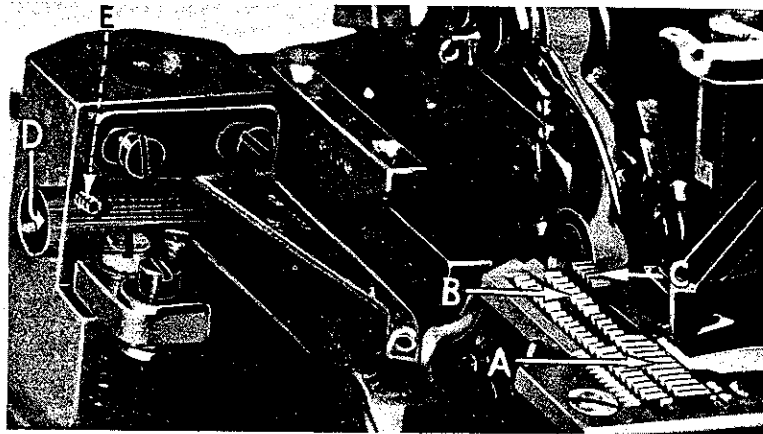

Fig. 12
On Style 39500 A set all three feed dogs (A, B, C, Fig. 12) so the top surfaces of teeth all lie in the same plane. This can be checked by sighting across teeth with a straight edge. Feed dogs should now be leveled with throat plate surface by rotating feed tilting adjusting pin (D). This pin raises or lowers the back end of both feed bars at the same time. The feed dogs should be set level at the time teeth first appear above the throat plate. Screw (E) locks feed tilting adjusting pin in place. Now set feed dogs so that teeth rise about  $\frac{3}{64}$  inch above throat plate.